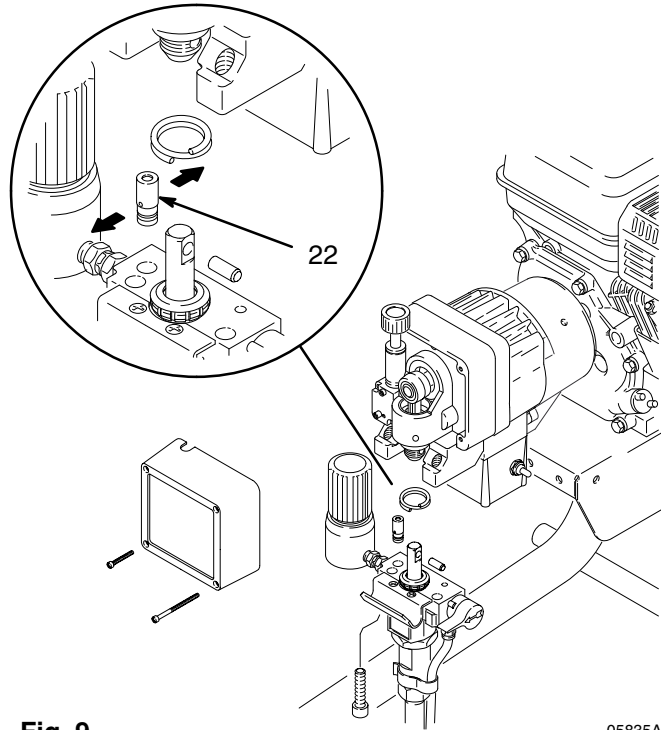

Fig. 9
NOTE: See Fig. 9 for this procedure.
2. Use a pull–twist motion to remove the transducer (22) from the pump manifold.
6. Align the holes in the transducer as shown by the arrows in Fig. 9.